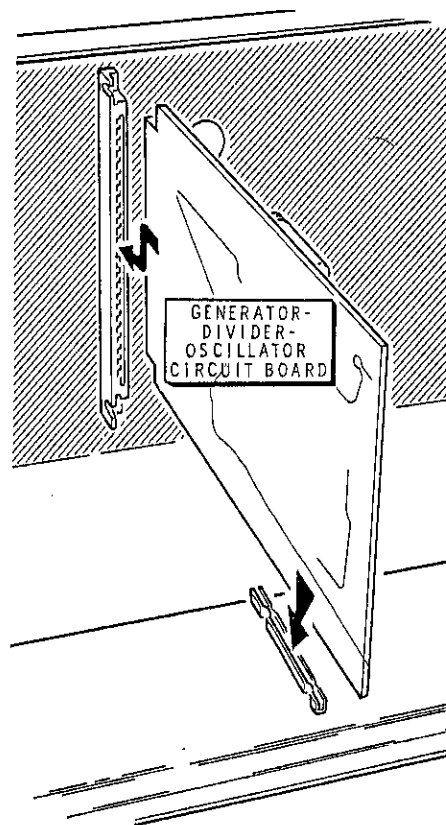

Figure 1-7
- (✓) Refer to Figure 1-7 and install the generator-divider-oscillator circuit board.